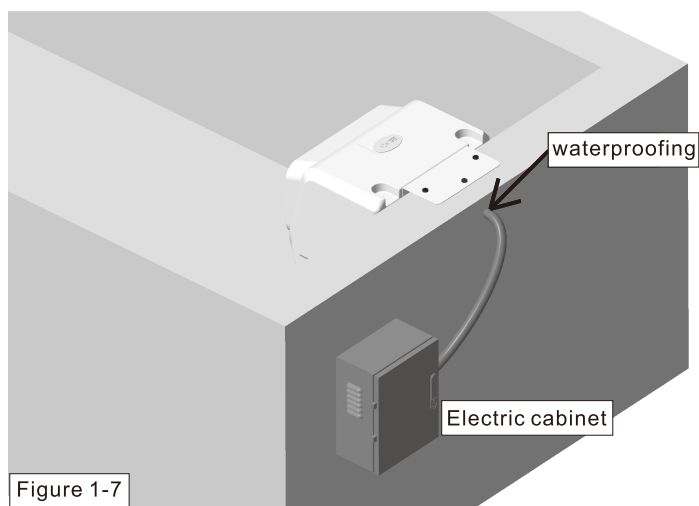

Figure 1-7
6.As shown in Figure 1-7, connect the power cord to the electric control box.And gluing the embedded casing for waterproofing after done the wiring.